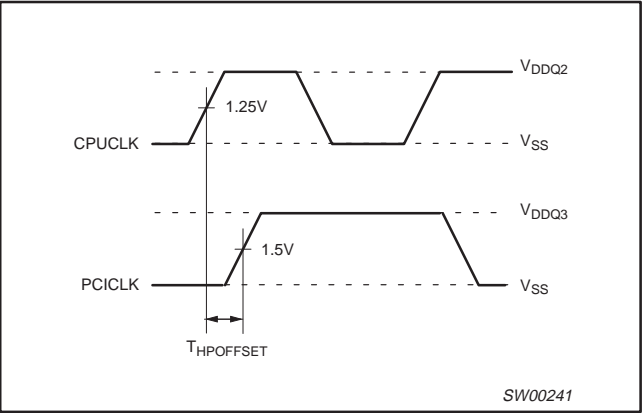

Figure 2. CPUCLK to PCICLK offset
4. The CPUCLK must always lead the PCICLK as shown in Figure 2.